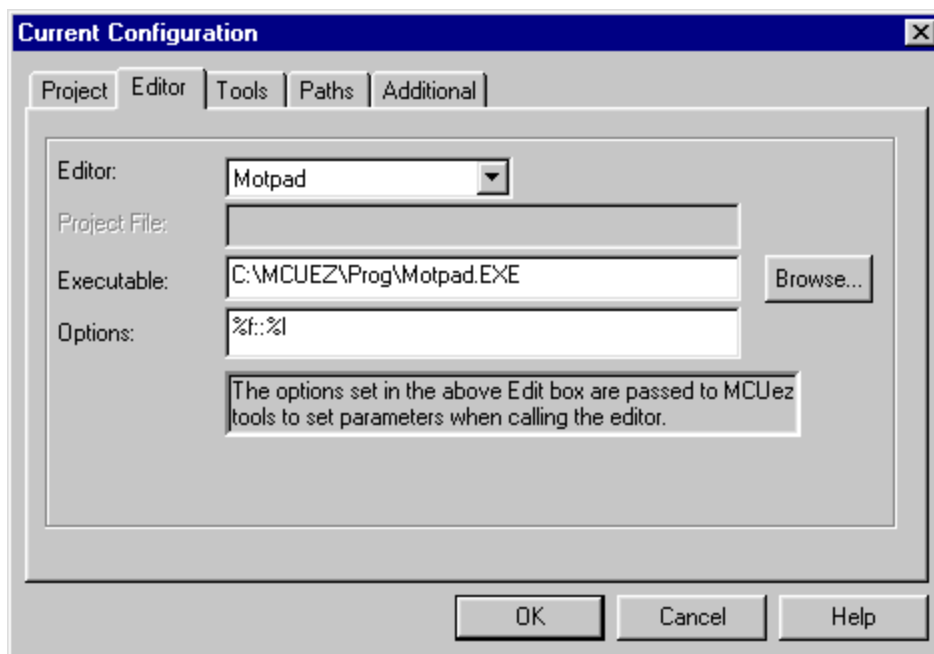

Figure 4-5. Editor Configuration for Motpad
5. The **Options** edit box contains options used for error feedback in the MCUez assembler and linker. After Motpad is selected, the shell automatically enters the appropriate options. **Figure 4-5** shows a typical Motpad configuration.